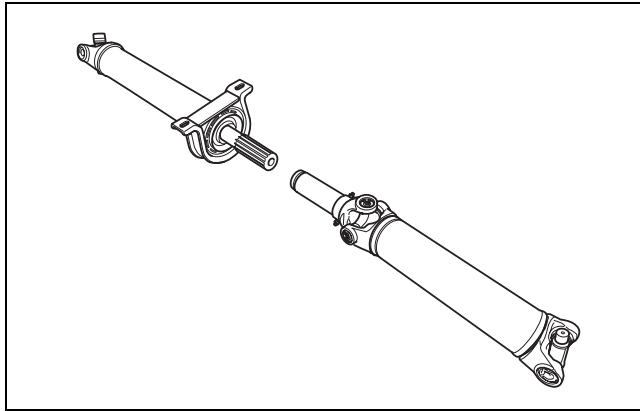

Figure 8.18
2. Pull the slip yoke and slip shaft sections apart. Figure 8.18.